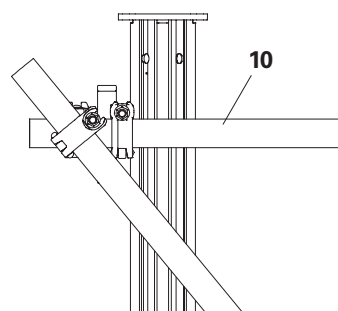

Fig. B1.02a
3. Arrangement of the couplings, see Fig. B1.02a.